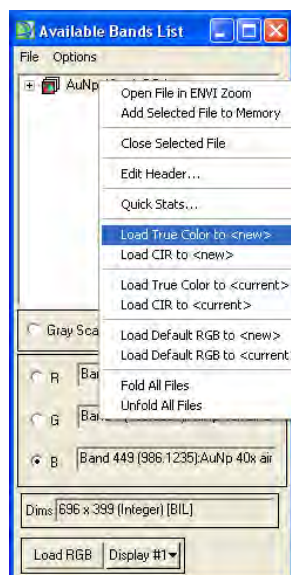

Figure 15. Imaging Open Options
- a. To open multiple images from the Available Bands List (see Figure 15)